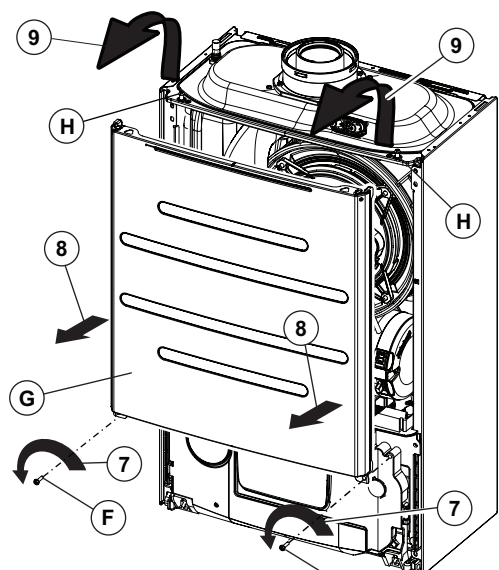

Fig. 7.3
Combustion panel - Fig. 7.3
9. Check that the insulation on the back of the combustion panel is intact and in position (it also acts as a case seal), then place the panel in position over the top pins and secure with the two screws previously removed (Fig. 7.3).